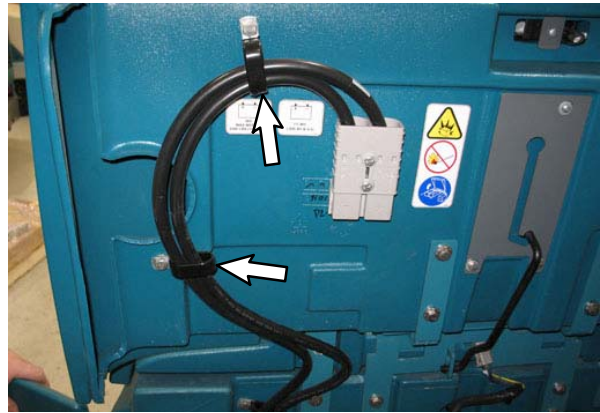

FIG. 5
3. Use the M8 hex screws (22) and three cable clamps (21) to secure the battery cable (15) to the battery cover. (Fig. 5)